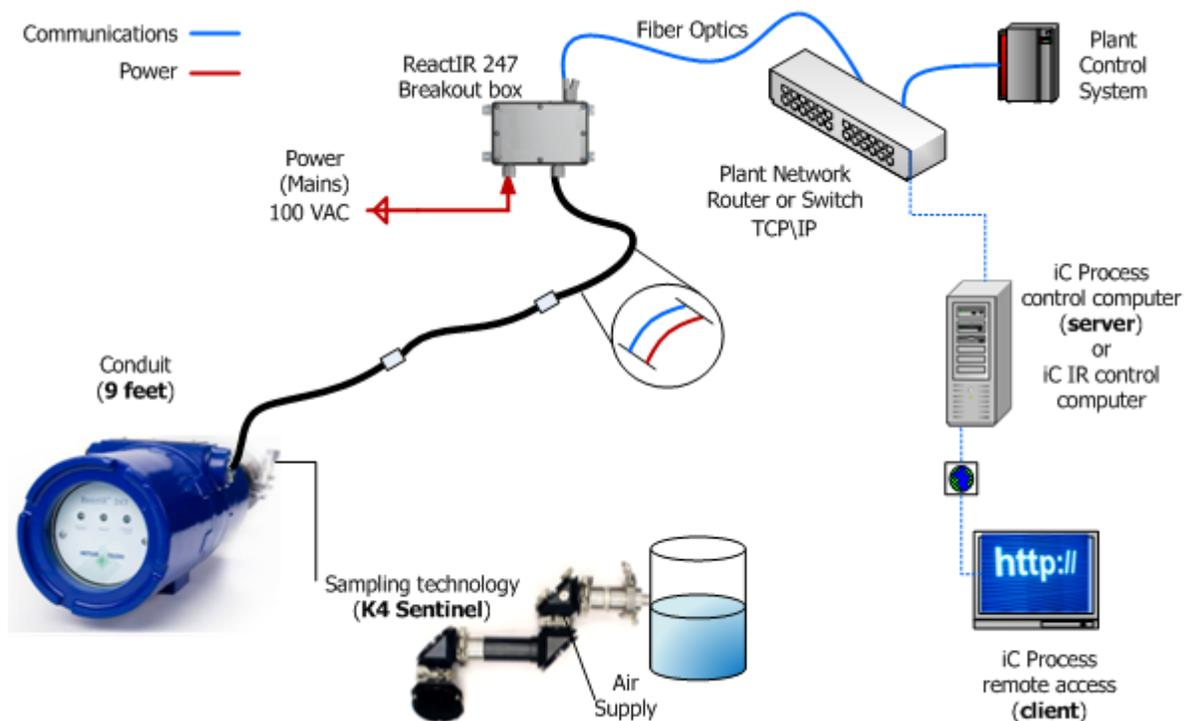

Figure 4-2 Typical HL—NRTL configuration
- In a typical HL—NRTL configuration (Figure 4-2), the breakout box has a pigtail connection for communications and the electrical conduit from the breakout box to the ReactIR 247 instrument is in three sections with sealed adapters.